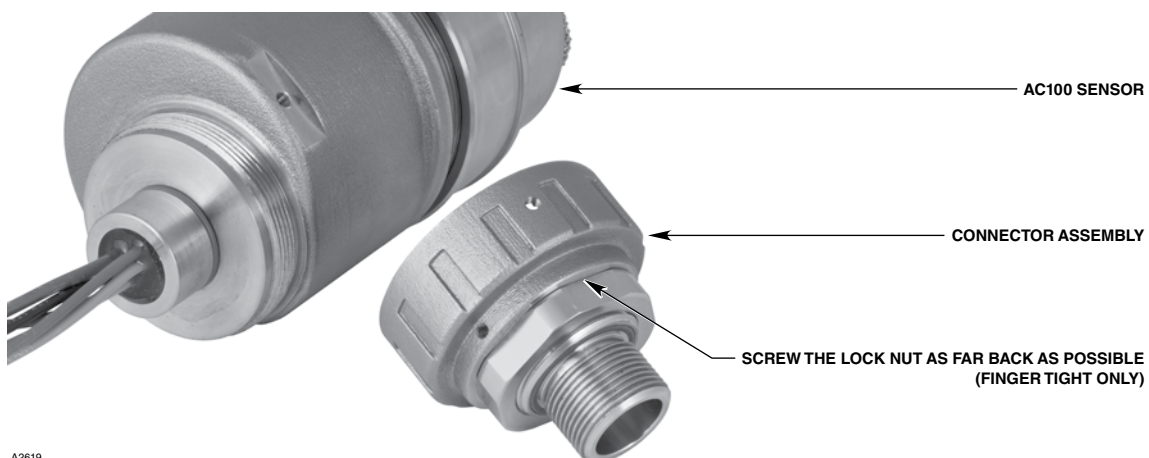

Figure 9—AC100 with Connector Assembly Removed
1. Remove the connector assembly from the AC100 Sensor. See Figure 9.